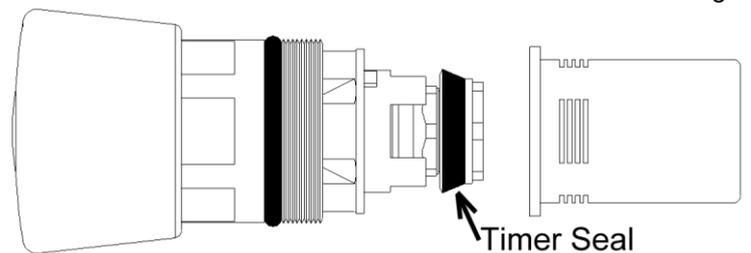

Fig. 10
5) Clean the timer seal (Fig. 10) on the piston and thoroughly flush this part of the assembly under clean running water. Note that if the seal is damaged then a replacement cartridge should be obtained. The cartridge has no user serviceable parts – spare seals are not available and cannot be fitted to the cartridge.